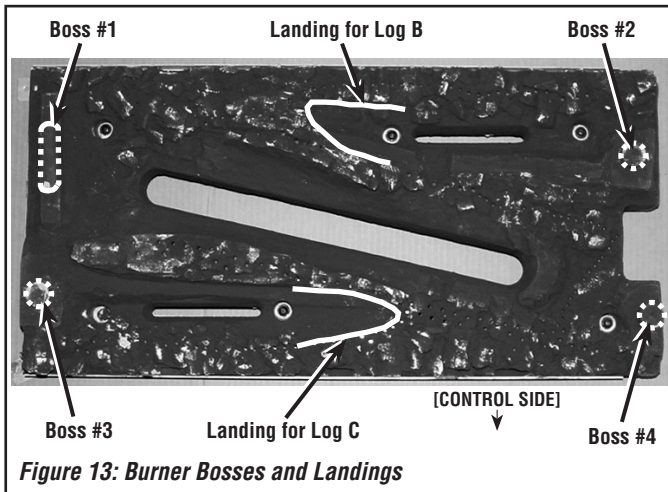
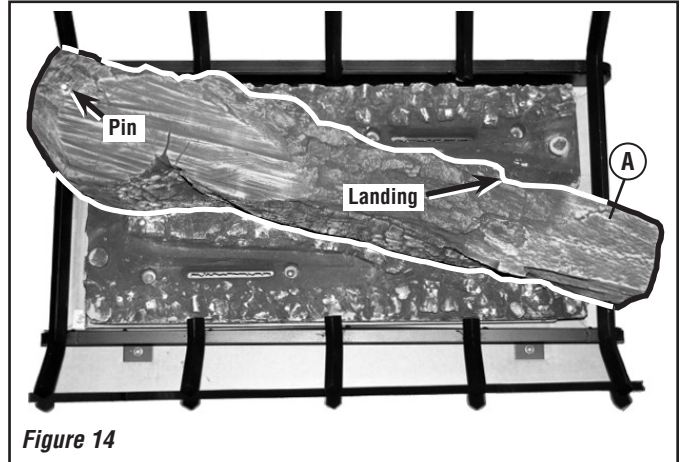
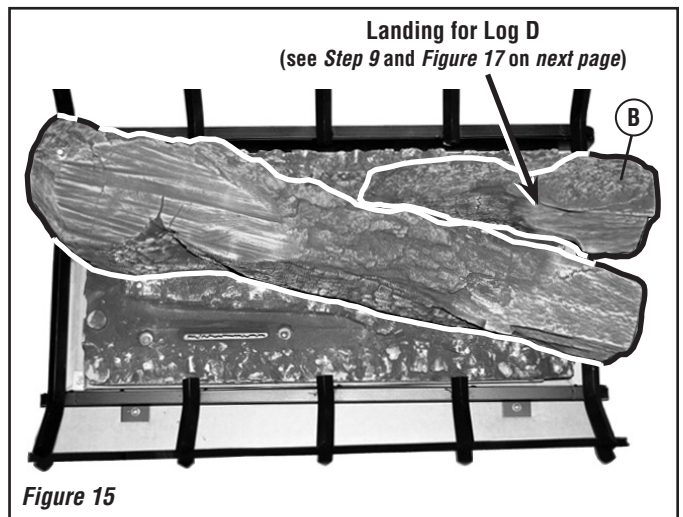

Figure 13: Burner Bosses and Landings
Figure 14
Figure 15
6. Place rectangular notches on underside of **Center Log A** (**Figure 14**) over **Boss #1** and **Boss #4** (**Figure 13**).
7. Place notch on underside of **Right Rear Log B** (**Figure 15**) over **Boss #2** (**Figure 13**).
Place opposite end of **Right Rear Log B** (**Figure 15**) on **Landing for Log B** (see **Figure 13**).
8. See **Figures 13 and 16**. Place notch on underside of **Left Front Log C** over **Boss #3**.
Place opposite end of **Left Front Log C** on **Landing for Log C** (see **Figure 13**).
The middle section of **Log D** will rest on the landing on **Log B** (labeled as “**Landing for Log D**” in **Figure 15**).